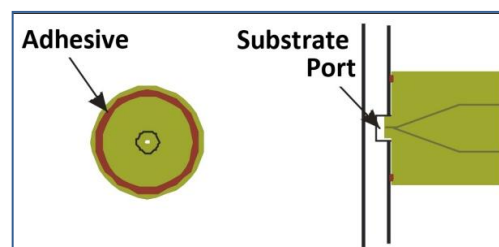

Figure 7. Bonded port glue application and alignment.
2. Using a small wire or piece of fused silica capillary apply the epoxy mixture to the outer edge of the bottom of the CapTite™ bonded port connector (Figure 7).
3. Align centering nub with center of via hole in chip (Figure 7).